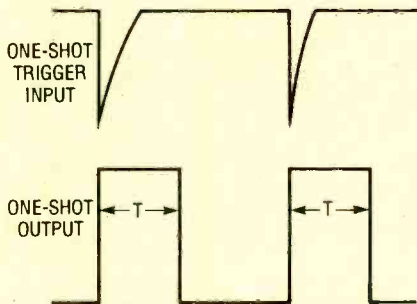

Fig. 2. Regardless of the width of the trigger input, the one-shot outputs a pulse of constant duration.
shot) circuit is used to produce a single output pulse, with constant duration and constant amplitude, for each input trigger pulse. Figure 2 shows the basic operation of the one-shot circuit. When the input pulse drops low, the output of the one-shot snaps high. The output remains high for a fixed time (T), and then drops low again. Note that the duration of the output is independent of the duration of the input.